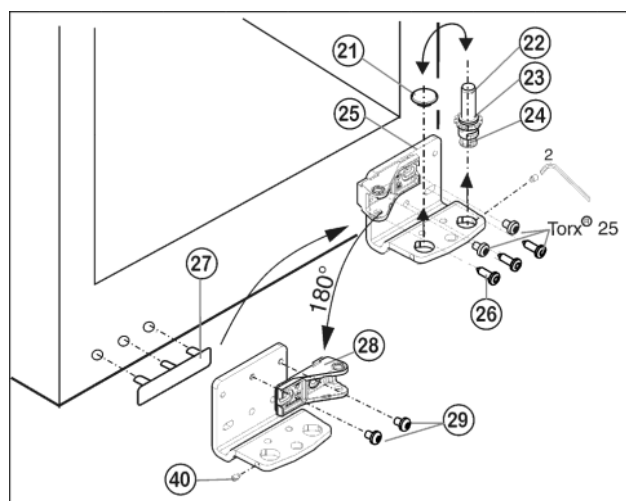

Fig. 7
- Using the accompanying Allen key, unscrew the threaded pin Fig. 7 (40) by about 1 turn.
- Turn and lift out the bearing pin Fig. 7 (22) together with washer Fig. 7 (23) and adjustable-height foot Fig. 7 (24).
- Lift off the stopper Fig. 7 (21).
- Unscrew the turn hinge Fig. 7 (25).
- Fully unscrew the threaded pin Fig. 7 (40) and screw it in on the opposite side, at the turn hinge, until it is flush outside with the turn hinge.
- Unscrew the bearing element Fig. 7 (28), turn it through 180° and screw it firmly back into place.
- Re-insert the stopper Fig. 7 (21) into the other hole.
- Carefully lift off the cover on the handle side Fig. 7 (27) and transfer it to the opposite side.
- Screw the turn hinge Fig. 7 (25) firmly into place on the new hinge side, possibly using a cordless screwdriver (with 4 Nm).
- Re-insert the bearing pin Fig. 7 (22) together with washer and adjustable-height foot.
- Tighten the threaded pin Fig. 7 (40).
- Place the door from above onto the lower bearing pin Fig. 7 (22).
- ▶ Align the door to the appliance housing by way of the two oblong holes in the bottom turn hinge Fig. 7 (25). To do so, unscrew the middle screw.